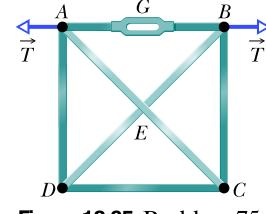

Figure 12.65 Problem 75.
- 75** The rigid square frame in Fig. 12.65 consists of the four side bars  $AB$ ,  $BC$ ,  $CD$ , and  $DA$  plus two diagonal bars  $AC$  and  $BD$ , which pass each other freely at  $E$ . By means of the turnbuckle  $G$ , bar  $AB$  is put under tension, as if its ends were subject to horizontal, outward forces  $\vec{T}$  of magnitude 535 N. (a) Which of the other bars are in tension? What are the magnitudes of (b) the forces causing the tension in those bars and (c) the forces causing compression in the other bars? (Hint: Symmetry considerations can lead to considerable simplification in this problem.)